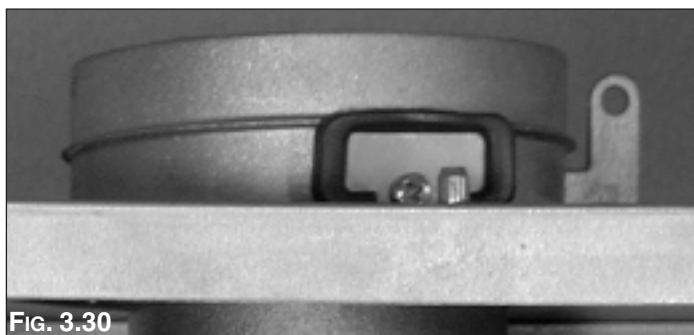

FIG. 3.30
1. Connect the combustion analyser to the analysis point (Fig. 3.30) after removing the cover plate.